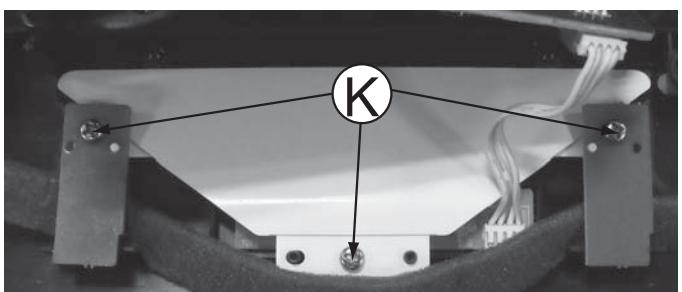

Figure 11
- 2) Loosen 3 screws "K" as shown in figure 11 to remove the LED board.